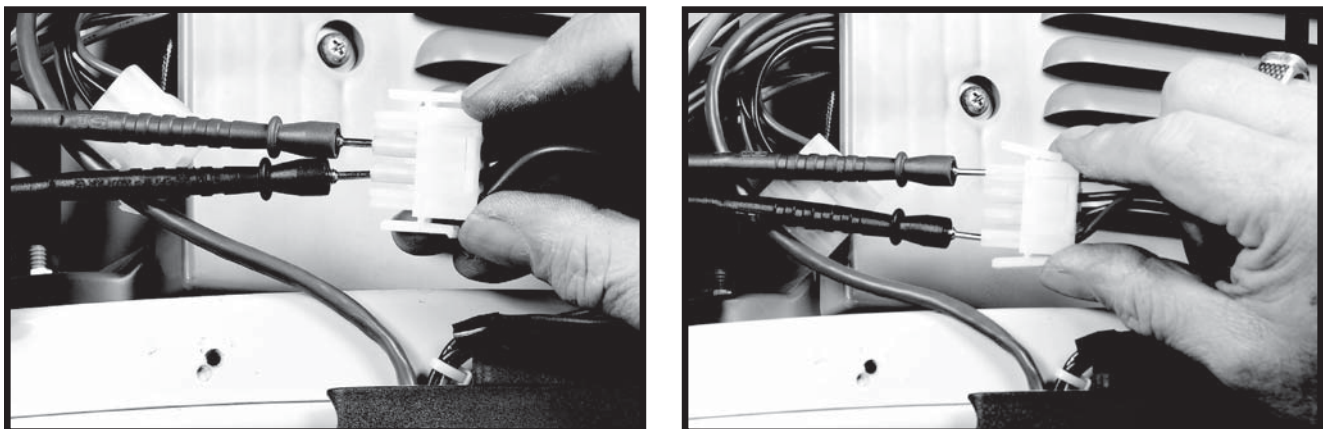

Figure 35
3. Disconnect the four pin plug/socket connection from the Temperature Probe outside the CCB enclosure on the left, see Figure 35 on page 36.
5. Check resistance between the two inside pins (black wires) of the plug end from the Temperature Probe, see Figure 35 on page 36. Compare the measured resistance to the values given in Table 4 on page 36. Temperature Probes are very reliable and should only be replaced when:
3. Disconnect the four pin plug from the Temperature Probe outside the CCB enclosure on the left, see Figure 35 below.
6. Check continuity between the two outside pins (red wires) of the plug end from the Temperature Probe, see Figure 35 below.